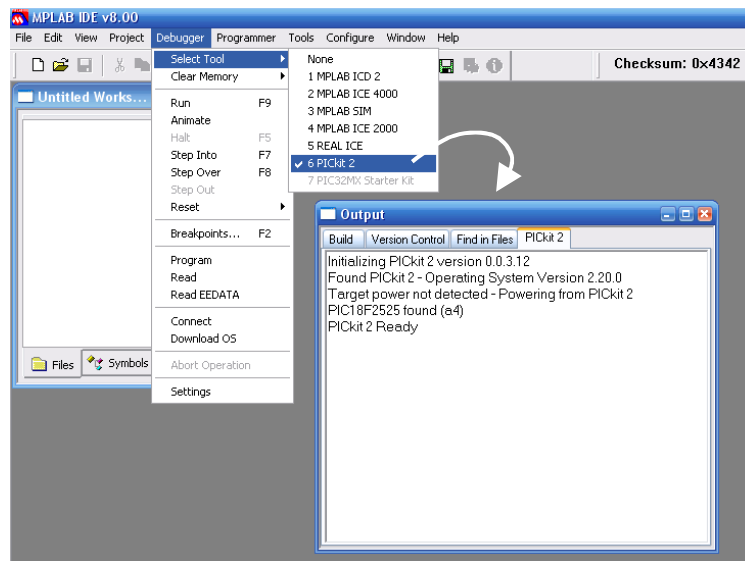

Figure 1.2
- 2.- On the Integrated Development Environment, MPASM, select PICKit2 as debugger. Then verify the correct connection between the IDE and your system. A window should announce the proper connection, shown in Figure 1.2.